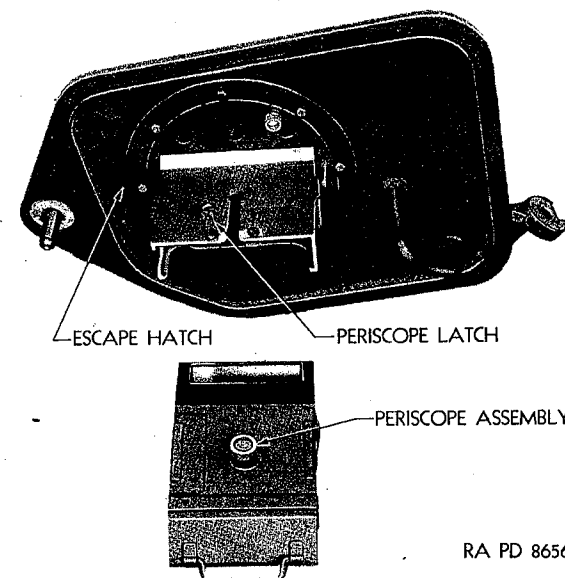

Figure 71—Periscope and Mounting
(1) Periscopes for both the driver and the assistant driver are mounted in the escape hatches. These periscopes are illustrated in Fig. 71, which shows them disassembled from their mountings as viewed from the front to reveal the method of installation.
(2) The periscopes have a 360° traverse and elevation of 25° from the vertical or a depression of 17°. These periscopes
(3) The periscope units are replaced complete in the event of damage by gun fire. To replace the periscope, turn back the locking latch (Fig. 71) and pull the damaged unit out. Reinstall a new unit by reversing this procedure.